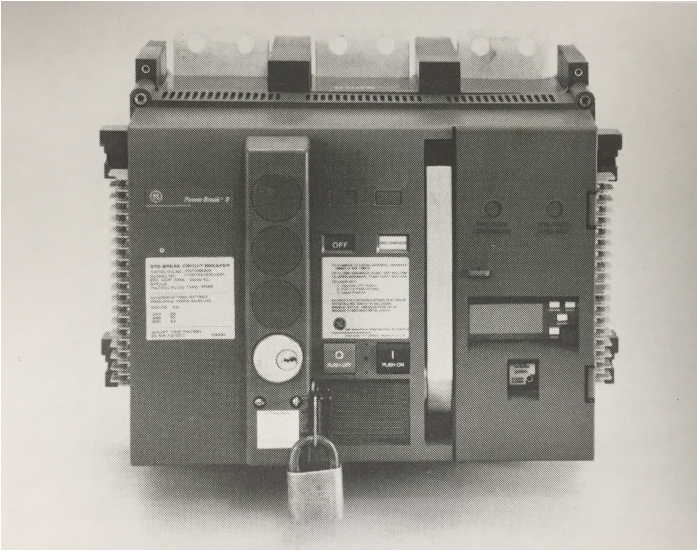

Figure 3. The Key Interlock with a padlock attached.
4. Rotate the secondary padlock lever out and attach padlocks, if desired, as illustrated in Figure 3.